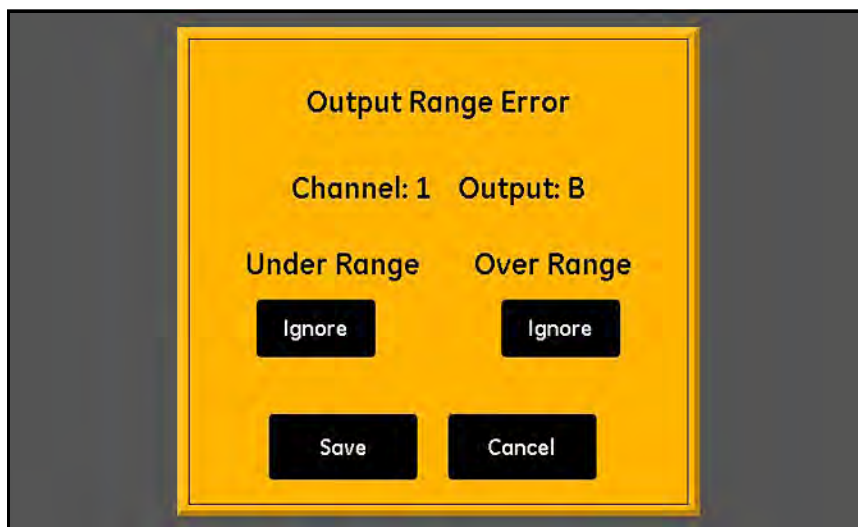

Figure 46: Range Error Setup Screen - Output Response
1. Tap the desired **Channel (1-6)** and **Output (A or B)**, and then tap the **Range Error** button to open a screen similar to *Figure 46* below.